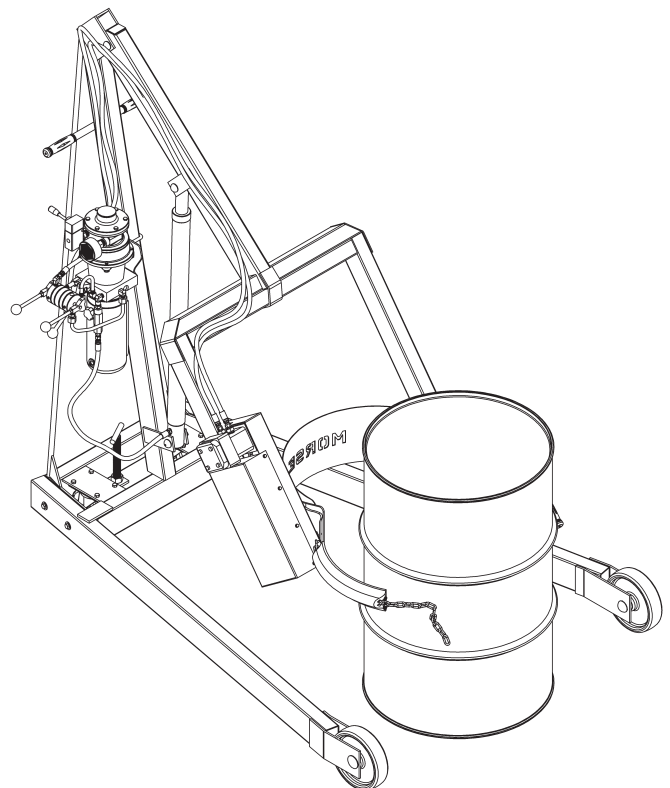

Figure 3.1
The screw-down floor lock is located on the base of the tower (figure 3.1). Turning the floor lock clockwise until it locks in the down position activates the floor lock. When the floor lock is activated it prevents unwanted free wheeling of the unit. Floor conditions determine the effectiveness of the floor lock. The operator should verify its holding action before depending on it to hold.
- 2.) Using "LIFT" control as described in "**Machine Description - Controls**", position drum holder assembly with back band at middle of drum (Figure 3.1). With ratchet plate swung open and cinch chain hanging from chain hook, push unit until back band rests firmly against drum. Some adjustment to tilt angle of saddle may be necessary to ensure band fits flush on drum.